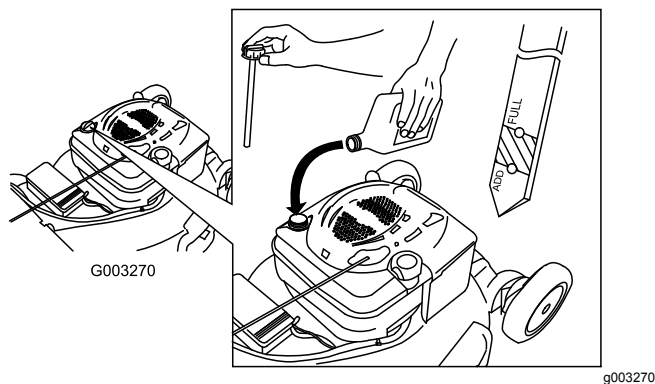

Figure 6
2. Remove the dipstick (Figure 6) and pour about 3/4 of the crankcase capacity of oil into the oil-fill tube.
5. Remove the dipstick and read the oil level on the dipstick; refer to Figure 6.
- If the oil level is too low, add a small amount of oil slowly to the oil-fill tube, and then repeat steps 3 through 5 until the oil level is correct as shown in Figure 6.